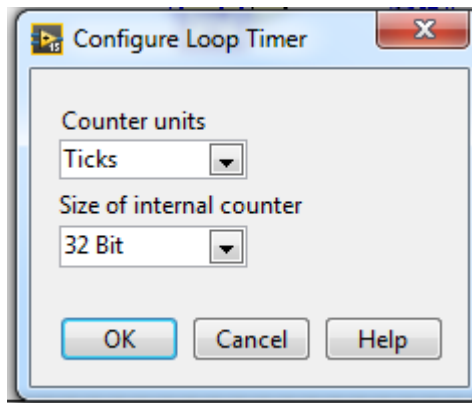

Fig. 3. Configure Loop Timer.
- 5) Check that the **“Counter units”** is **“Ticks”** as shown in Fig. 3 by **double clicking on Loop Timer**.
- 3) Check that the “**Counter units**” is “**Ticks**” as shown in Fig. 3 by **double clicking on Loop Timer 2**.